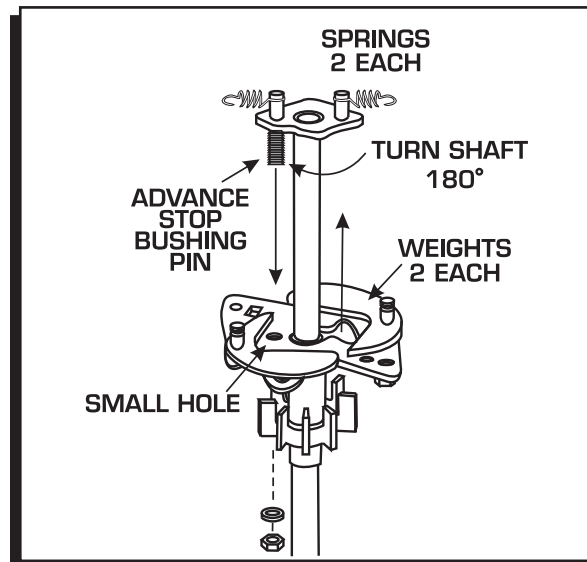

Figure 7 Locking Out the Advance.
4. Rotate the shaft 180° and insert the advance stop bushing pin into the small hole on the advance plate (Figure 7).